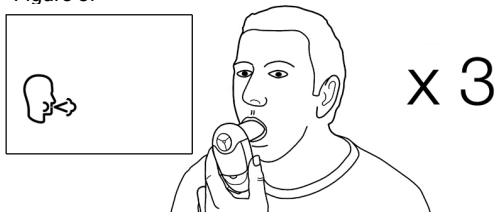

Figure 3. Holding device during test.
1. Turn the device on. ①
5. Instruct subject to hold their head high and hold the Vitalograph COPD-6 USB ready in front of the mouth, see Figure 3.